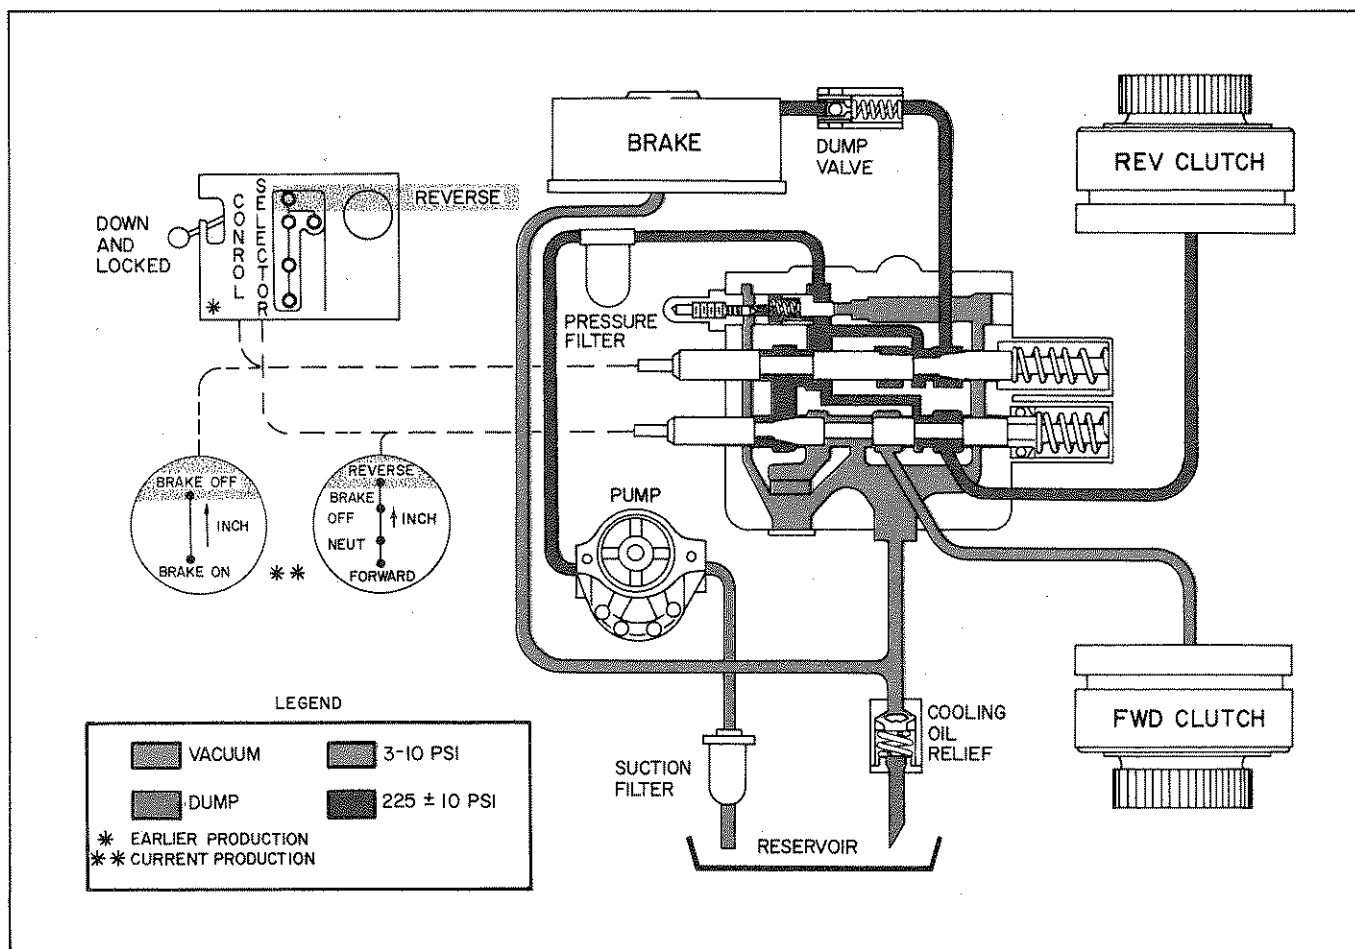

Figure 1-14. Hydraulic Flow Diagram, Reverse, Normal Operation
1-27. HYDRAULIC SYSTEM IN REVERSE, NORMAL OPERATION. (See Figure 1-14.) On Earlier Production Handling Gear, the system is placed in REVERSE, Normal Operation by: (1) Moving the Control Lever Down and locking it in place and (2) Shifting the Selector Lever to the REVERSE position. On the Current Production Handling Gear, this is accomplished by: (1) Locking the Inching Lever in the BRAKE OFF position and (2) Shifting the Selector Lever to the REVERSE position. When the Control Lever is locked in the Down position or the Inching Lever is locked in the BRAKE OFF position, the inching spool is pulled to its extreme Out position. With the Selector Lever in the REVERSE position, the selector spool is pulled to its extreme Out position. With the spools in these positions, the hydraulic pump draws oil from the reservoir through the suction filter and delivers it through the pressure filter